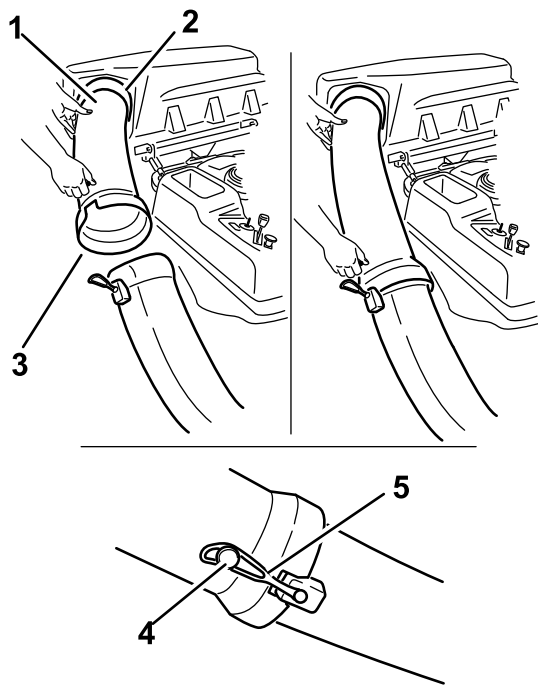

Figure 29
1. Slide the curved end of the discharge tube into the opening in the bagger top (Figure 29).
- Slide the flared end of the discharge tube over the end of the chute. Move the rubber retaining strap on the chute snaps over the peg on the discharge tube to secure it (Figure 29).